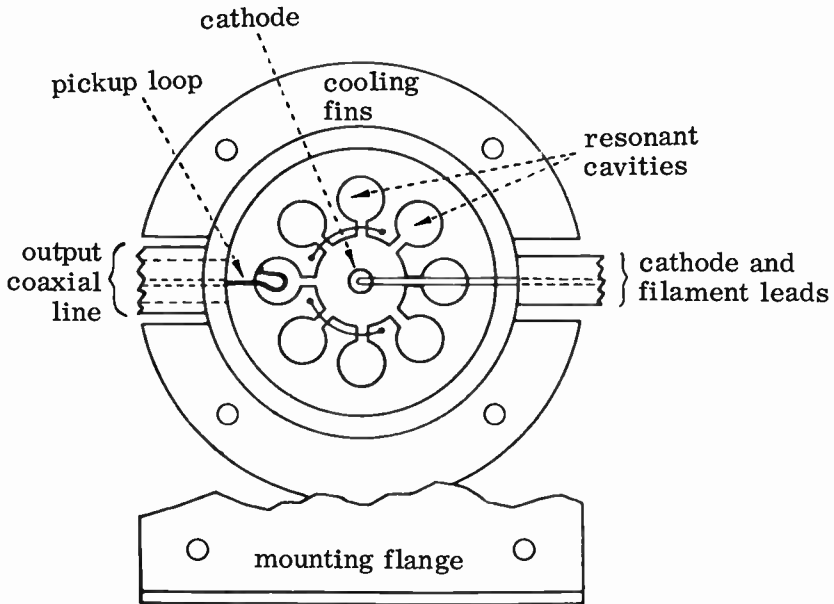

FIG. 19-14. A MULTI-ANODE MAGNETRON.
**MULTI-ANODE MAGNETRON.** In the multi-anode magnetron, shown in Fig. 19-14, there is no tuned circuit. The anode is a large cylindrical mass containing many resonant cavities. The size of the resonant cavities is the